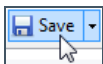

Figure 12: Create and save the GSDML file
- 5) **Save the GSDML file at a required location** (see: Figure 12: Create and save the GSDML file).